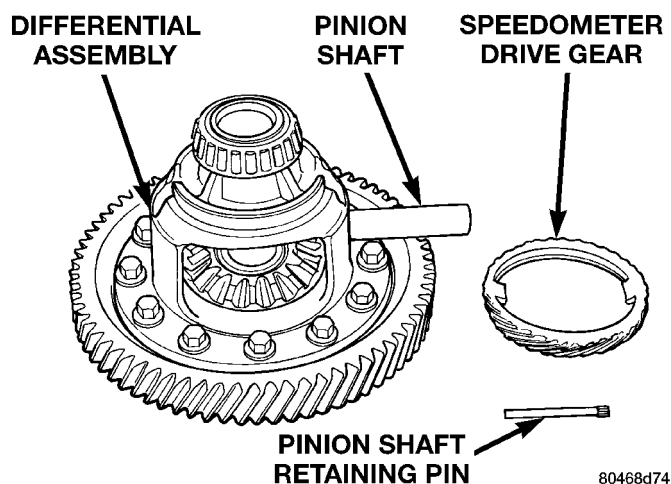

Fig. 110 Pinion Shaft Removal
- (2) Remove pinion shaft (Fig. 110).